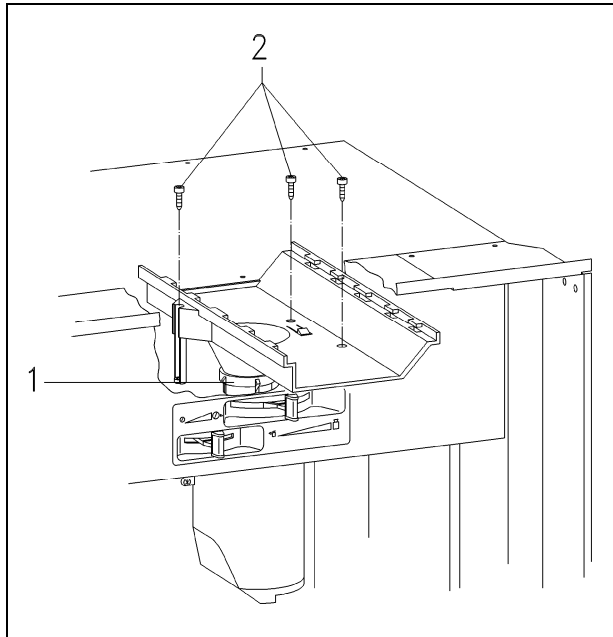

Figure 5-46: Beans Container Guide
2. Remove the beans container end stop screw (Figure 5-46).
5. Remove the guide retaining screws (Figure 5-46, Item 2).
6. Remove the guide and carrier (Figure 5-46, Item 1).